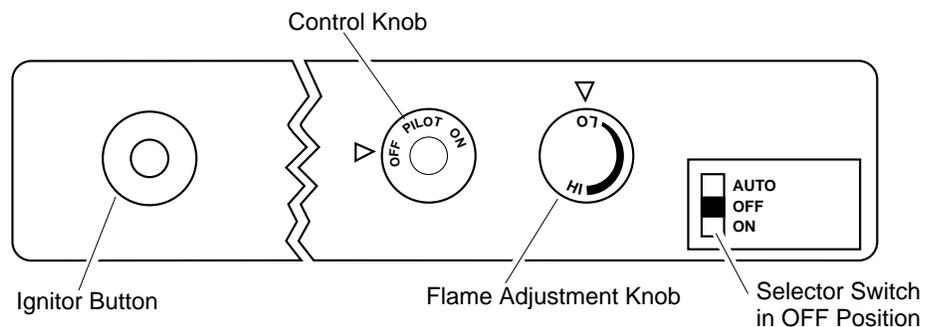

Figure 21 - Control Knob and Ignitor Button Location
4. Press in and turn control knob clockwise  to the OFF position (see Figure 21).
5. Wait five (5) minutes to clear out any gas. Then smell for gas, including near the floor. If you smell gas, **STOP!** Follow "B" in the safety information above. If you don't smell gas, go to the next step.
6. Press in and turn control knob counterclockwise  to the PILOT position. Press in control knob for five (5) seconds (see Figure 21).